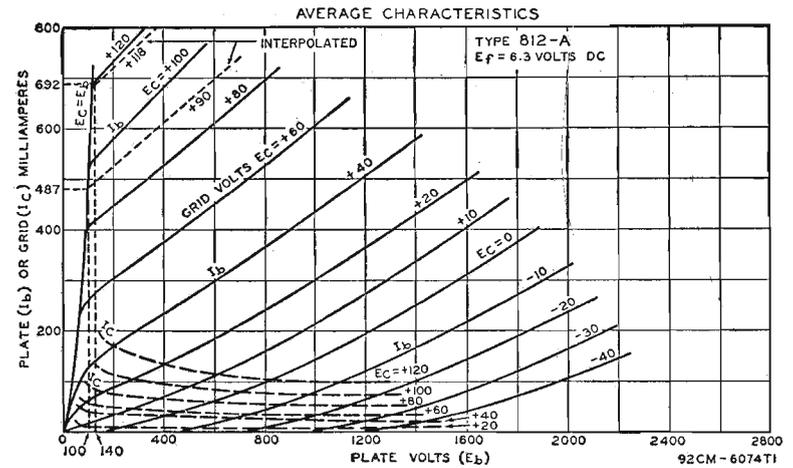

Fig. 45
(1) From the published data for the 812-A, the maximum plate-input rating is 260 watts. The dc plate current (I_b) required to provide this input at a plate voltage, (E_b) of 1500 volts is I_b = 260/1500 = 0.173 ampere, or 173 milliamperes.
(2) From Table I, K₁ for a conduction angle of 140 degrees is 4. Therefore, peak plate current (i_{bmax}) = 0.173 × 4.00 = 0.692 ampere, or 692 milliamperes.
(3) The average characteristics curves given in Fig. 45 show that a peak plate current of 692 milliamperes is obtained at a peak positive grid voltage (e_{omax}) of 118 volts and an effective minimum plate voltage (e_{bmin}) of 140 volts.
(4) From Table I, K₂ for a conduction angle of 140 degrees is 0.862. Therefore, power output (P_o) = 0.862 × (1500 - 140) × 0.173 = 203 watts (approx.).
(5) Plate dissipation (P_p) = (1500 × 0.173) - 203 = 57 watts (approx.)
(6) From Table I, K₃ is 0.520. From the published data, the amplification factor μ is 29. Therefore, the dc grid voltage or bias (E_c) = -[0.520 × (118 + 140/29) + 1500/29] = -[0.520 × (118 + 4.8) + 52] = -(64 + 52) = -116 volts.
(7) Peak rf grid voltage (E_g) = -(-116) + 118 = 234 volts.
(8) From the average characteristics curves shown in Fig. 45, for e_{omax} of +118 volts and e_{bmin} of 140 volts, peak grid current (i_{cmax}) = 195 milliamperes (approx.).